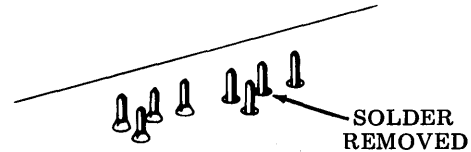

Fig. 12—Solder Removal
- (c) Remove solder from around terminal pins of keyswitch to be removed (Fig. 12).